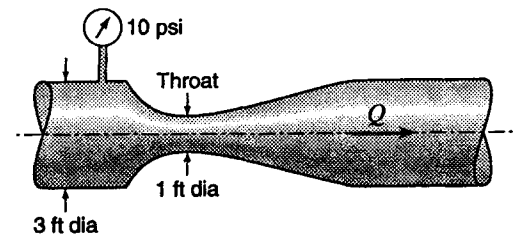

Figure S5.9
- 5.10.3 *Water at 80°F flows horizontally through the constriction of Fig. S5.9 at a rate of 65 cfs when the atmospheric pressure is 27.9 inHg. Neglecting head loss, find the largest throat constriction diameter  $d_2$  which will cause cavitation.*